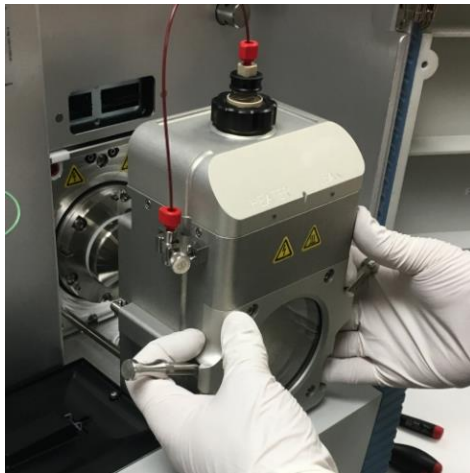

Figure 46: Removing the source housing
- 4) Pull-up on the two cam levers located on the lower right and left-hand side of the source housing. As the cams rotate, the source housing will come away from the bulkhead and will slide off the two metal guide rods as shown in Figure 46.
- 5) Slowly remove the source housing as shown in Figure 46, taking care to avoid damage to the ESI probe and capillary connection.